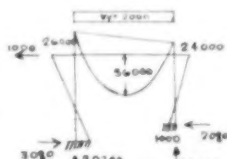

Fig. 19.
Case C. (Fig. 19)— $w = 2000 + P = -1000$  lb. per foot (wind from the right). As  $M_c = 24,665$ , this value has to be used. To show what happens when a wrong value is used,  $M_c$  as well as  $M_B$  will first be assumed to be 26,000. From equation (3),